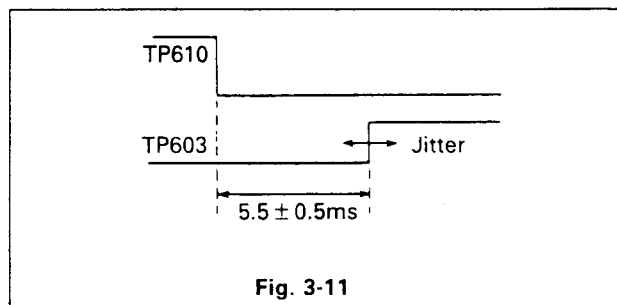

Fig. 3-11
- (A) Sub-tracking adjustment
- (1) Connect the oscilloscope's CH1 to the test pin TP610 on the S/S circuit board and the CH2 to the test pin TP603 on the same circuit board.
- (2) Run the alignment tape (MH-2).
- (3) Adjust VR603 until rising edge of V sync pulse matches to rising edge of the RF switching pulse as shown in Figure 3-11.